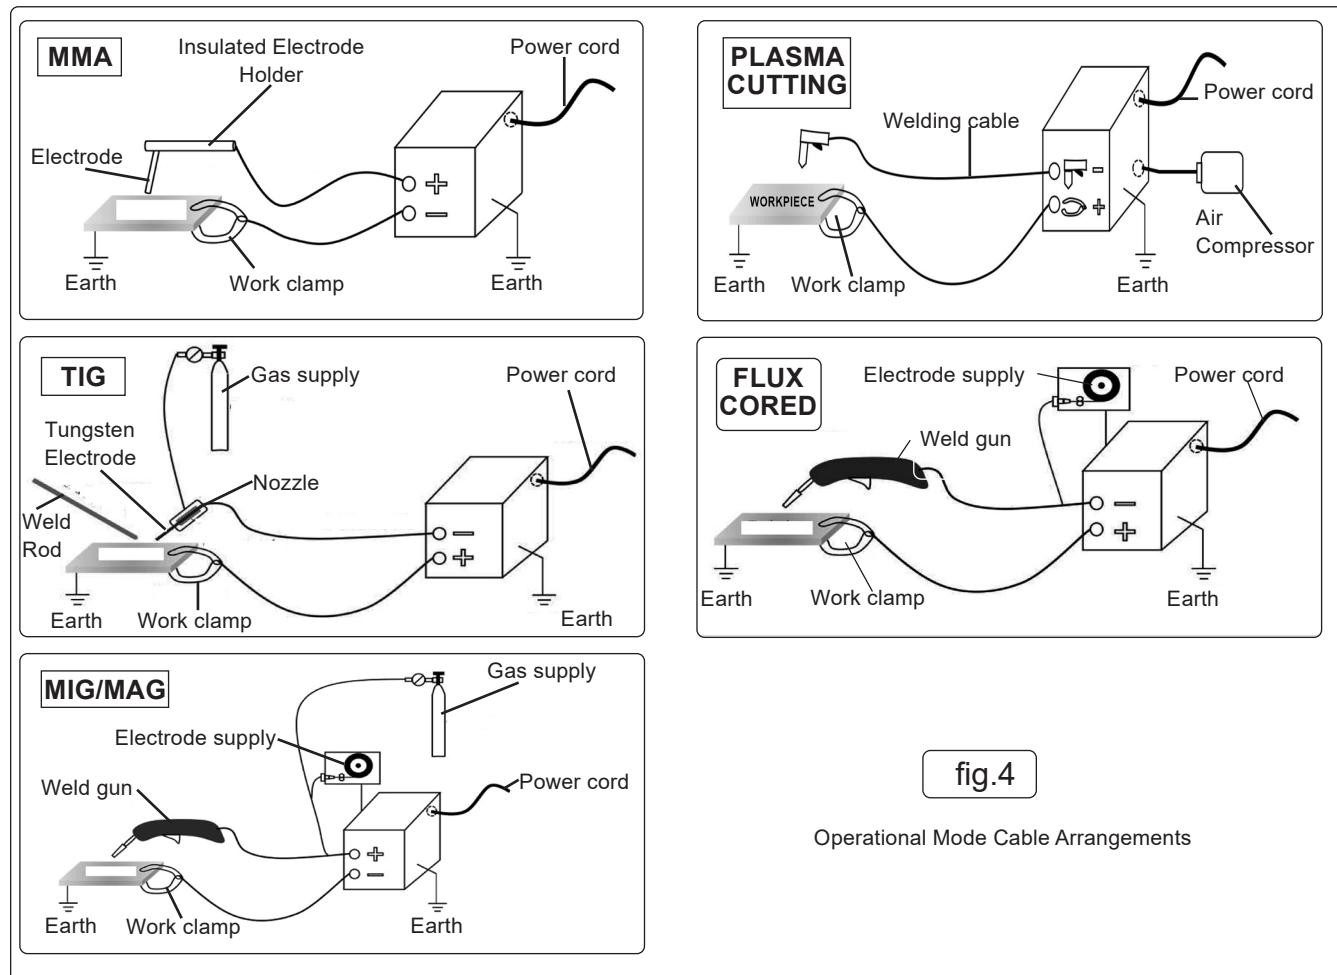

fig.4
5.2. OPERATIONAL MODE CONNECTIONS (SEE FIG.4)